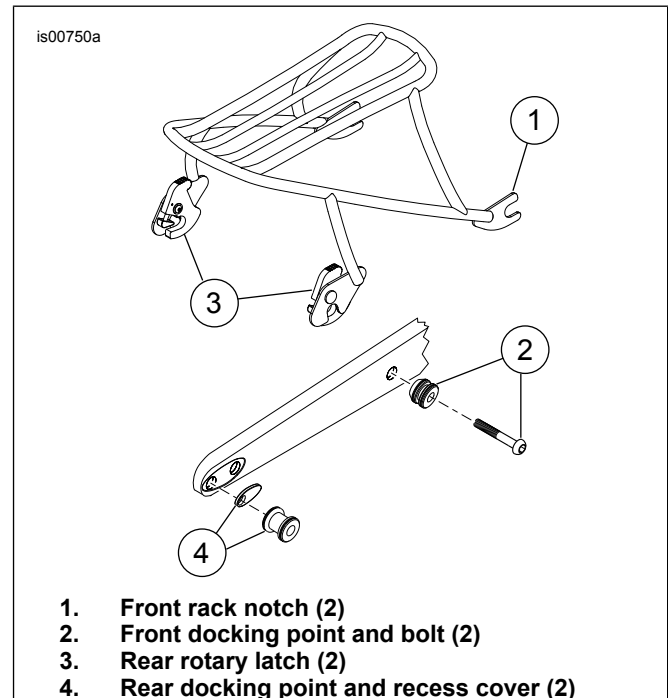

Figure 1. Install detachable solo rack
1. See Figure 1. While standing behind the motorcycle, place the front rack notches (1) into the front docking points (2).
3. Position the rear rotary latches (3) over the rear docking points (4). Verify the latches and sideplates fit into the neck of the rear docking points. This may require some gentle squeezing or spreading of the sideplates.